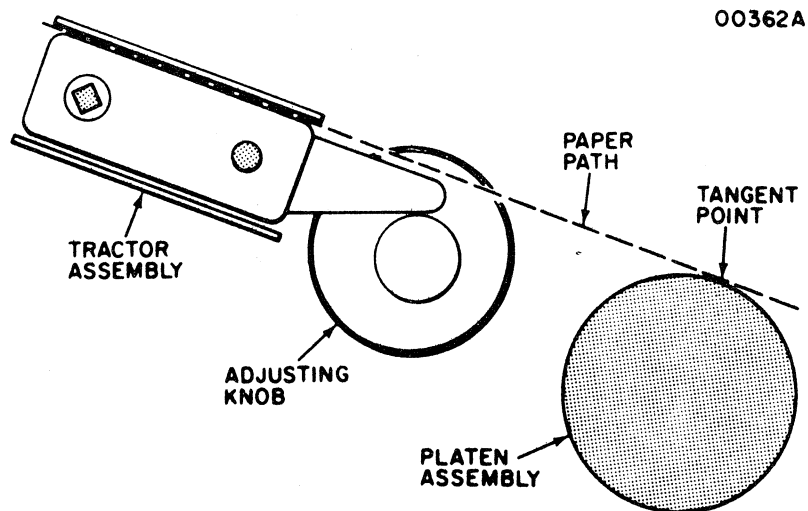

Figure 3-21. PAPER TENSION ADJUSTMENT
2. Paper Tension Adjustment (Refer to Figure 3-21)